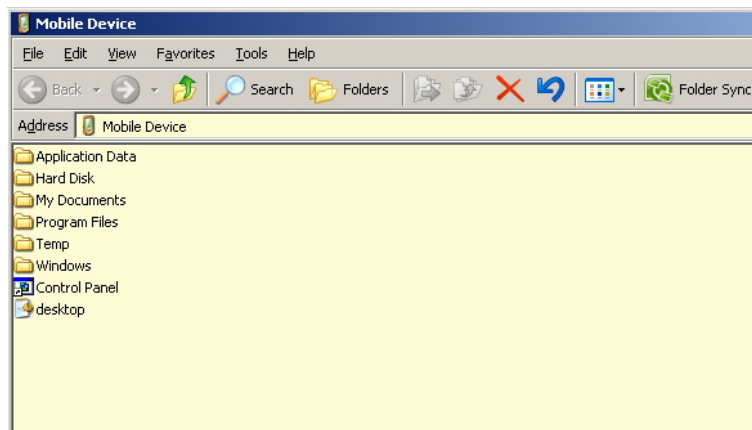

Figure 7.42
- it will activate the window **Mobile Device**, shown in **Figure 7.42**, which contains a list of folders and files installed in the device KI 6700;